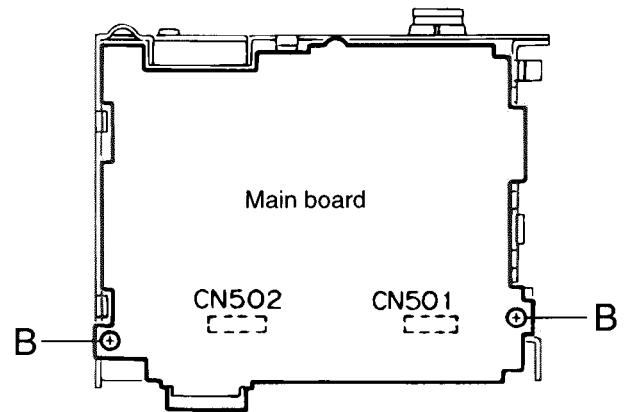
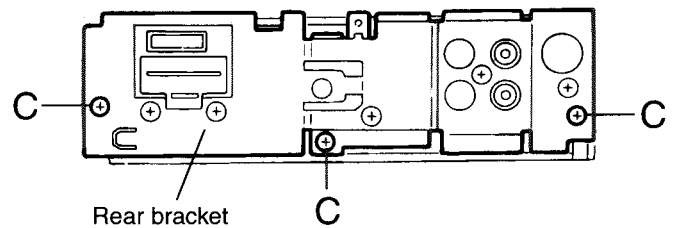

Fig.5
Fig.6
■ Removing the main board (See Fig.5, Fig.6)